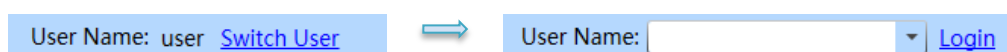

Figure D-2.1a. Quick Start Bar - Login
- Login: user can click **< Switch User >** and enter the registered account name in the input box; or select a registered account name in the drop-down menu, and then click **< Login >** to log in as the current user account, as shown in figure D-2.1a.